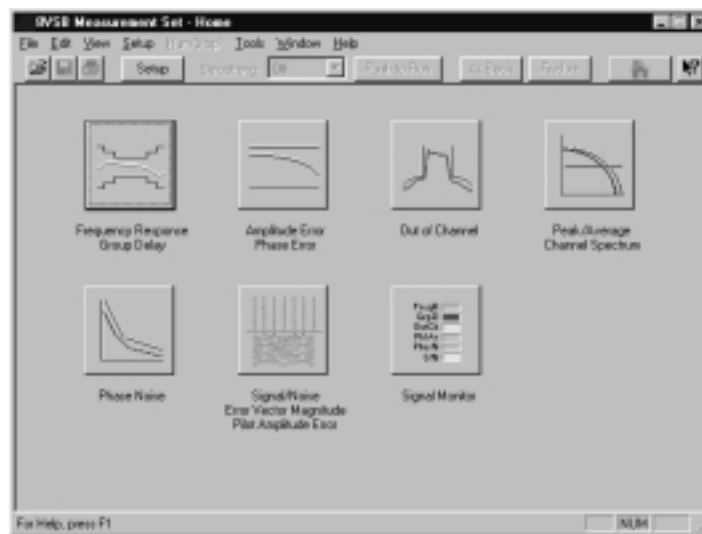

Figure 2–6: Home Window
The Home Window is the point-of-entry into the RFA300A measurement set. From the Home Window, you can access all measurements by clicking on the appropriate icon. A measurement begins to run immediately as soon as the window opens. Figure 2–6 shows the Home Window. Refer to the *Reference* chapter in the *RFA300 Measurement Set 8VSB User Manual* for an overview of each measurement window.
- Toolbar** All toolbar selections are available from any measurement window and the Signal Monitor window. The toolbar provides an easy way to access frequently used functions. Figure 2–7 shows the toolbar followed by a list of the functions.